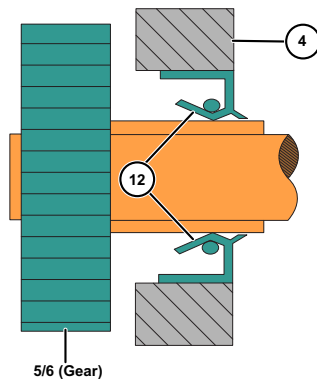

Figure 65 - Orientation of Oil Seal
2. Press the new oil seal (Figure 65, item 12) into the gear case cover (item 4) flush with the outside face, with the spring facing in.